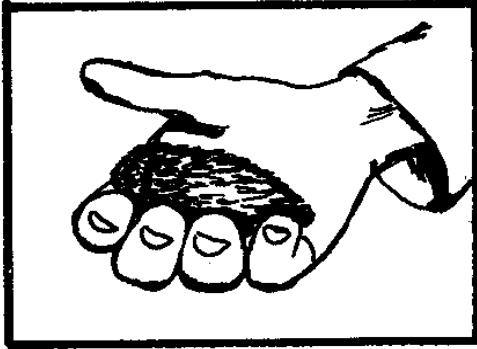

Fig. 7 - Determining the Dampness.
(3) Mix it thoroughly again, by turning it over with a shovel.
40. Testing for the Correct Amount of Moisture. The correct amount of moisture is quickly learned through experience. To test it, squeeze a handful of the mixture. (See Fig. 7.)